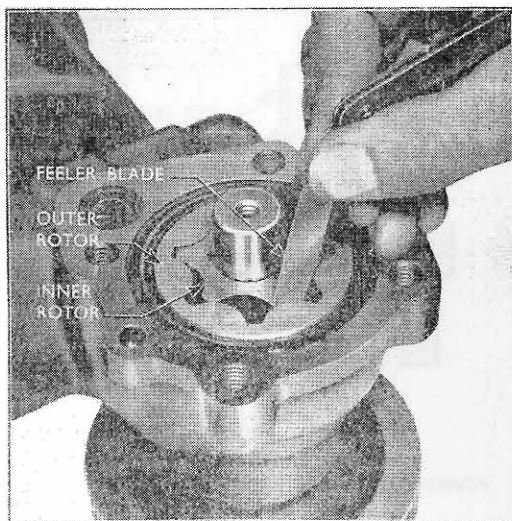

Fig. 13
5. Check the maximum clearance which exists between each lobe of the inner rotor and the lobes of the outer rotor using feeler gauges. (See Fig. 13.) If the clearance exceeds .006 ins. (.15 mm.) the pump body and rotor assembly should be renewed as necessary.